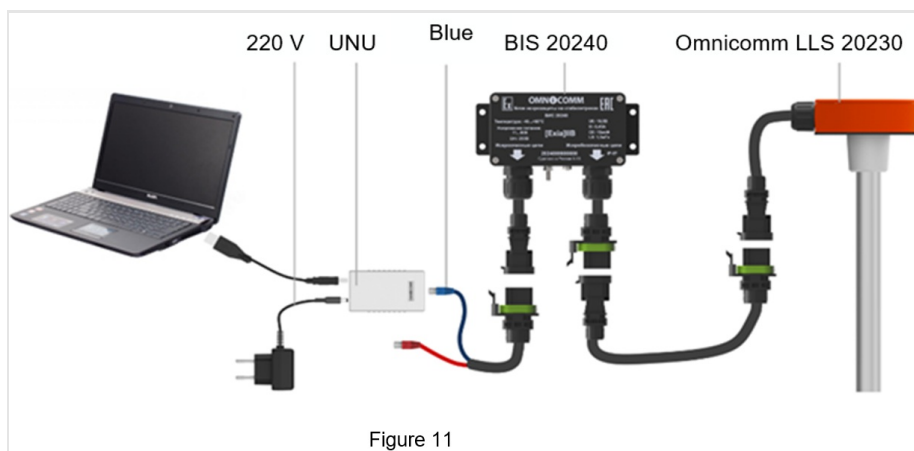
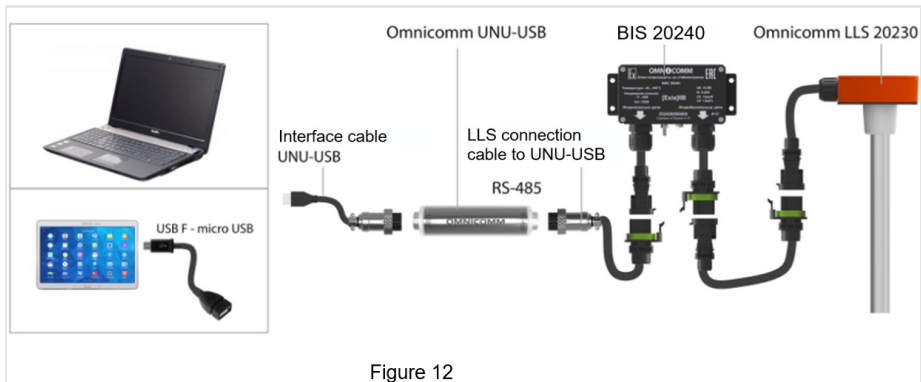

Figure 11
Figure 12
Connect the Product to the PC following the connection diagram (see Appendix E), using the REUSABLE TOOL-UNU (Figure 11) or Omnicomm UNU-USB (Figure 12).
2. Connect the Omnicomm LLS fuel level sensor to a PC or tablet PC with a UNU device or UNU-USB, as illustrated in Figures (Figure 11, Figure 12)